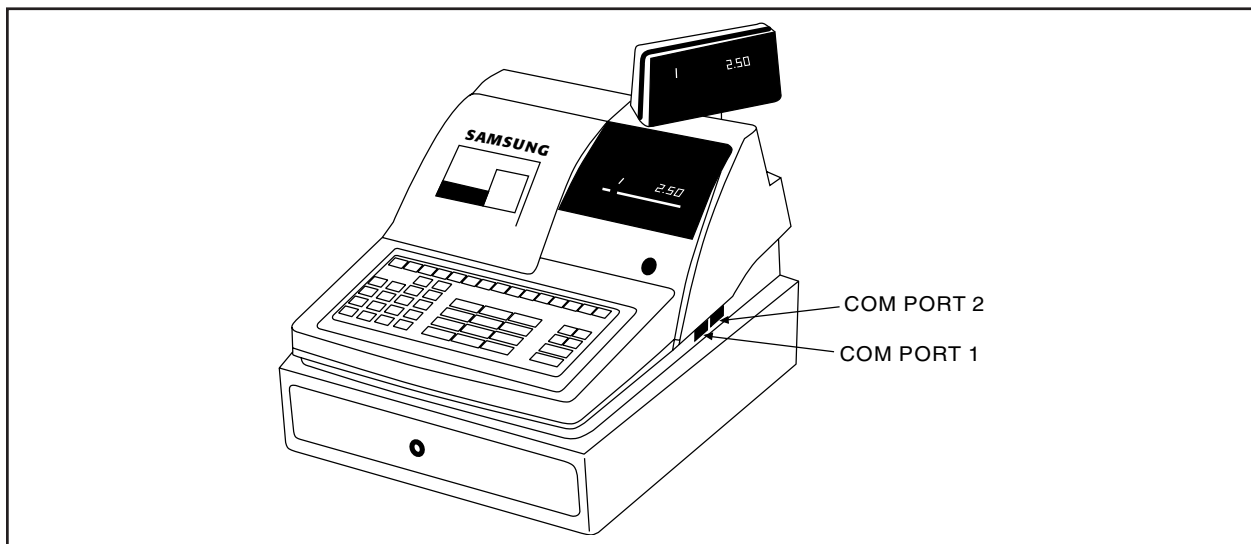

Figure 1. Samsung 6500 Com Ports
7. Connect the ICISA6500 interface cable into an available Com Port on your cash register. Com 1 is preferred but you can also use Com 2. (Refer to Figure 1.)